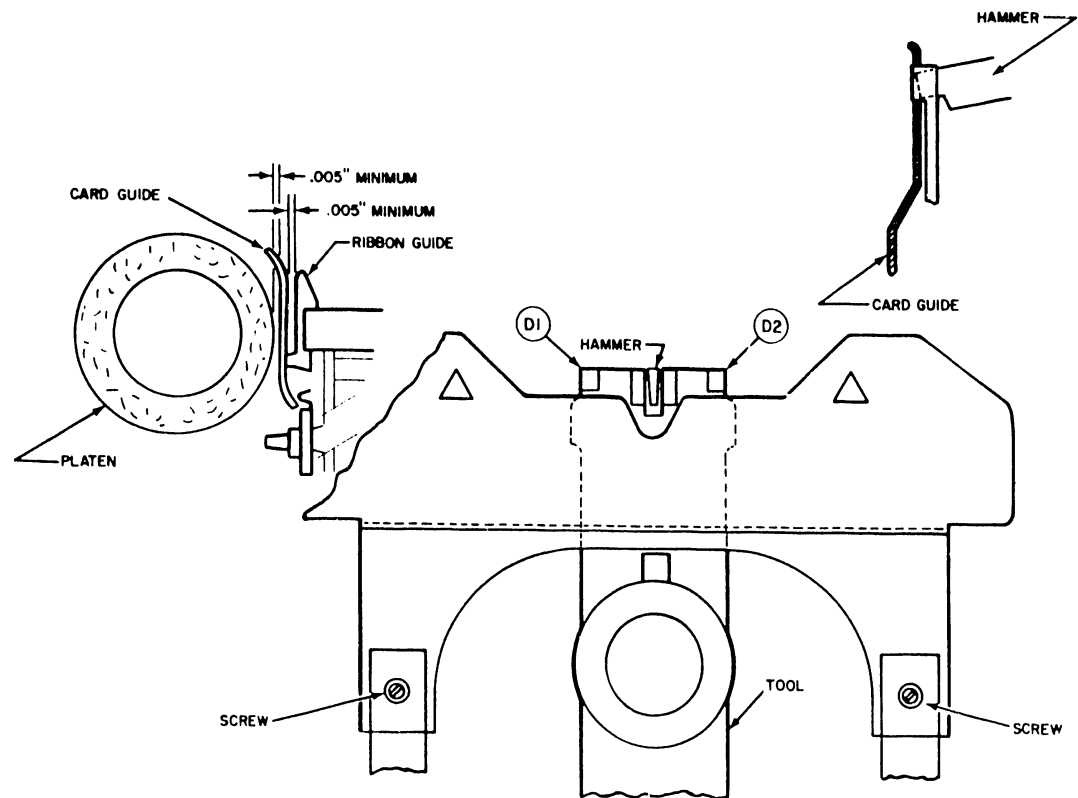

FIGURE 4-12 CARD GUIDE ADJUSTMENTS
1. Loosen the two (2) 3/16" Hex Head card guide mounting screws (slotted screws on older models) and move the card guide down. (Refer to Figure 4-12.)